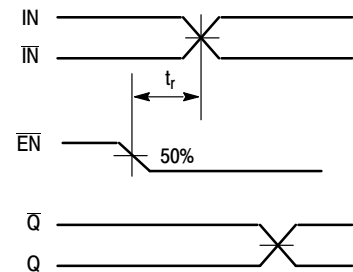

Figure 5. Release Time
7. The release time is the minimum time that EN must be deasserted prior to the next IN/ $\bar{IN}$  transition to ensure an output response that meets the specified IN to Q propagation delay and output transition times (Figure 5).
- The release time is the minimum time that  $\overline{\text{EN}}$  must be deasserted prior to the next  $\text{IN}/\overline{\text{IN}}$  transition to ensure an output response that meets the specified  $\text{IN}$  to Q propagation delay and output transition times (Figure 5).